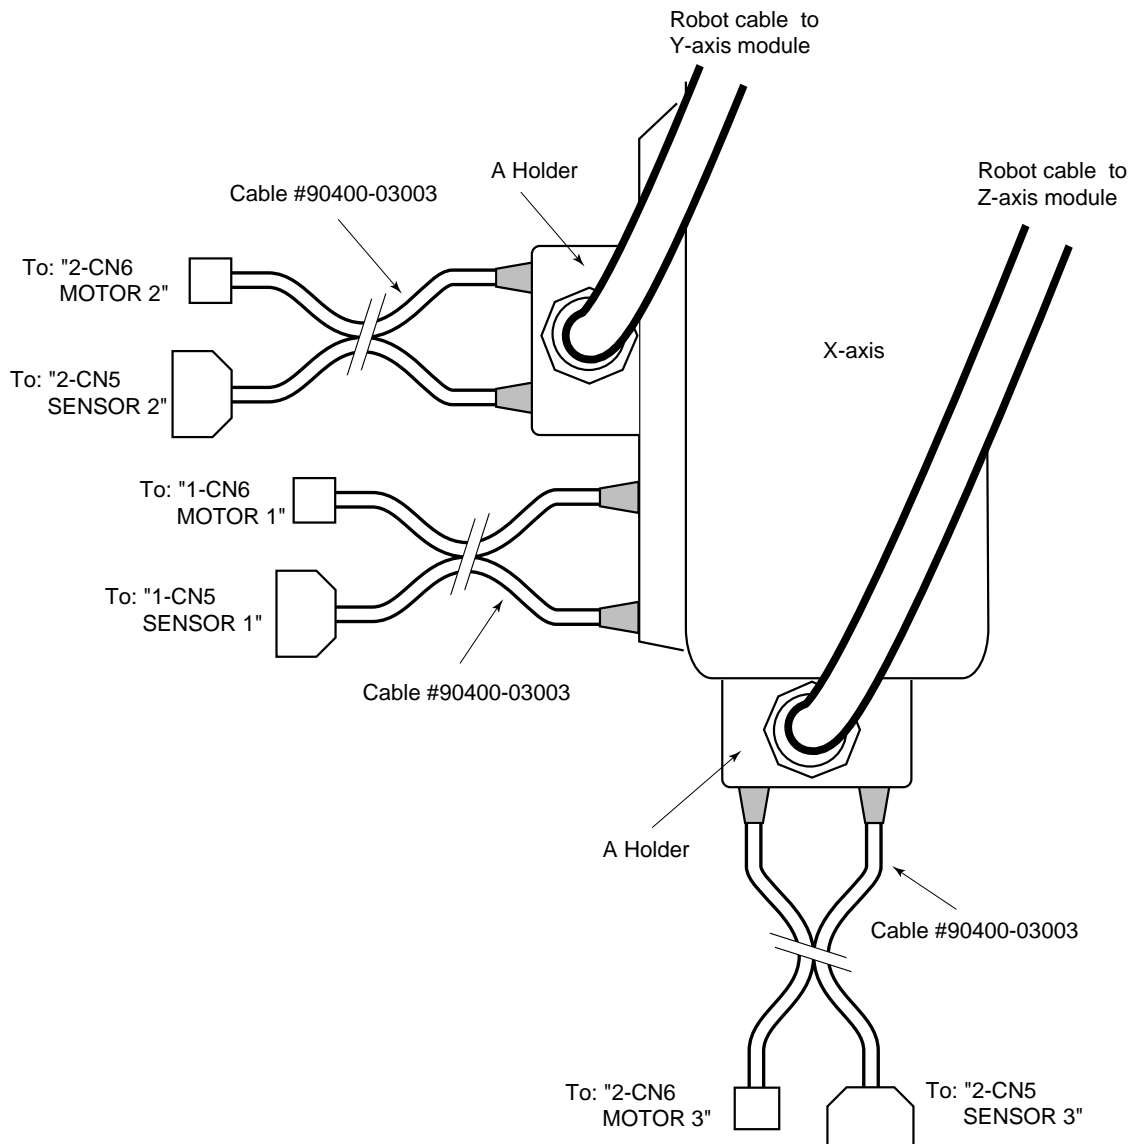

Figure 5-9. Connecting to an EXA or EXC Controller
- a. Connect the two barrel ends of the cable to the X-axis module as shown in Figure 5-9. These connectors have different pin sizes and cannot be installed incorrectly. The other ends connect to the controller connections marked “1-CN6 MOTOR 1” and “1-CN5 SENSOR 1”.
- b. Attach the A holder end of the robot cable to the side of the X-axis as shown in Figure 5-9 (refer to Section 4.3 for holder mounting).
- c. Connect the two barrel ends of the controller cable to the Y-axis cable (holder A) as shown in Figure 5-9. These connectors have different pin sizes and cannot be installed incorrectly. The other ends connect to the controller connections marked “2-CN6 MOTOR 2” and “2-CN5 SENSOR 2”.
- c. Connect the two barrel ends of the controller cable to the Z-axis cable (holder A) as shown in Figure 5-9. These connectors have different pin sizes and cannot be installed incorrectly. The other ends connect to the controller connections marked "2-CN6 MOTOR 3" and "2-CN5 SENSOR 3".